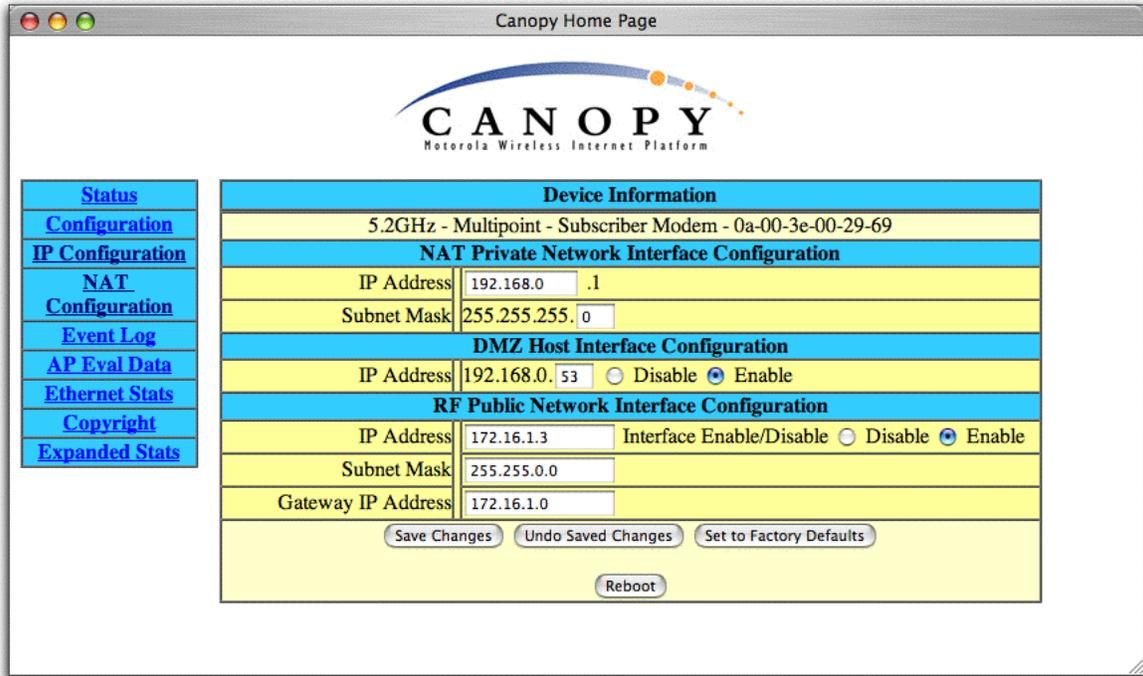

Figure 41: IP Configuration screen, NAT with DHCP client
- Figure 41 on Page 95 for the NAT with DHCP Client implementation.